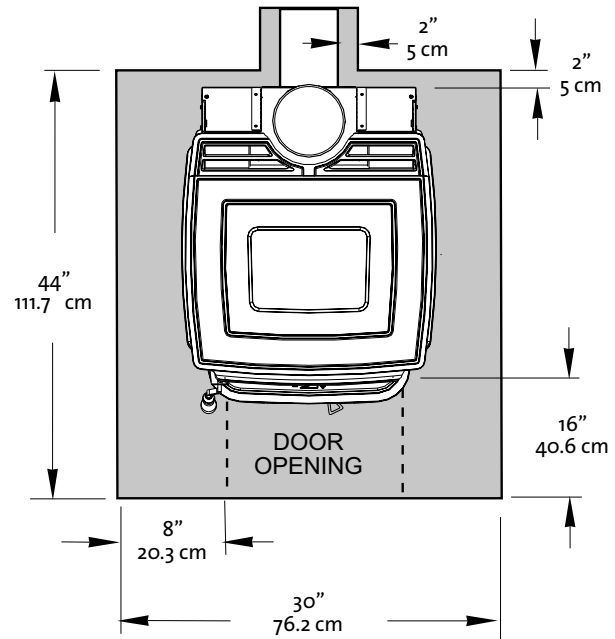

Figure 9. Floor Protection minimum dimensions, U.S.
**IN THE U.S:** Floor protection must extend continuously forward from the door opening at least 16 in. and 8 in. from the sides of the door opening. Protection must also extend 2 in. from the rear and 2" to the sides under any horizontal chimney connector. This will result in a minimum floor protector measuring 27" wide x 44" deep. See fig 9.